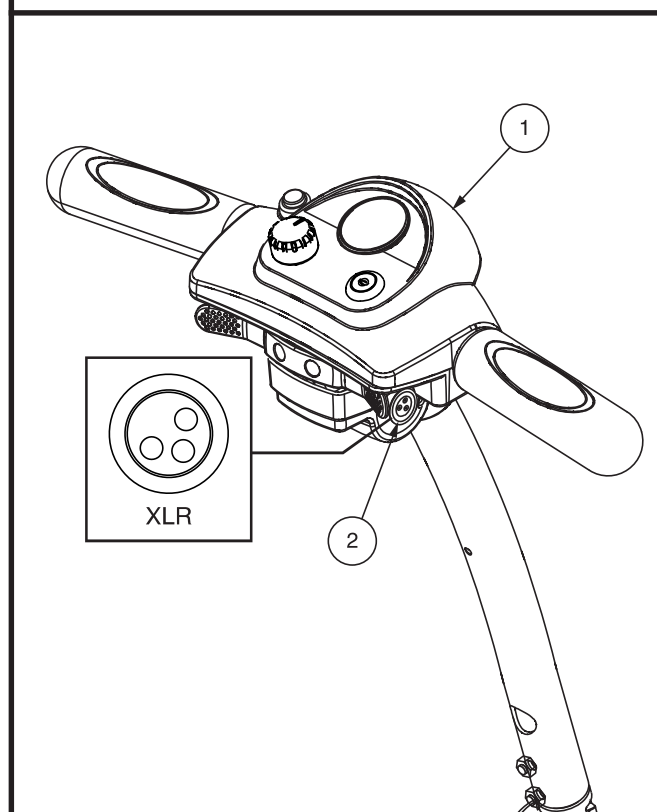

Figure 12. Charger Power Cord Receptacle (Tiller Mounted)
The end of the 3-pin charger power cord plugs into this receptacle. **See figures 12 and 13.**
**NOTE:** *See figures 12 and 13 to determine the appropriate XLR charging port based on the configuration of your scooter.*